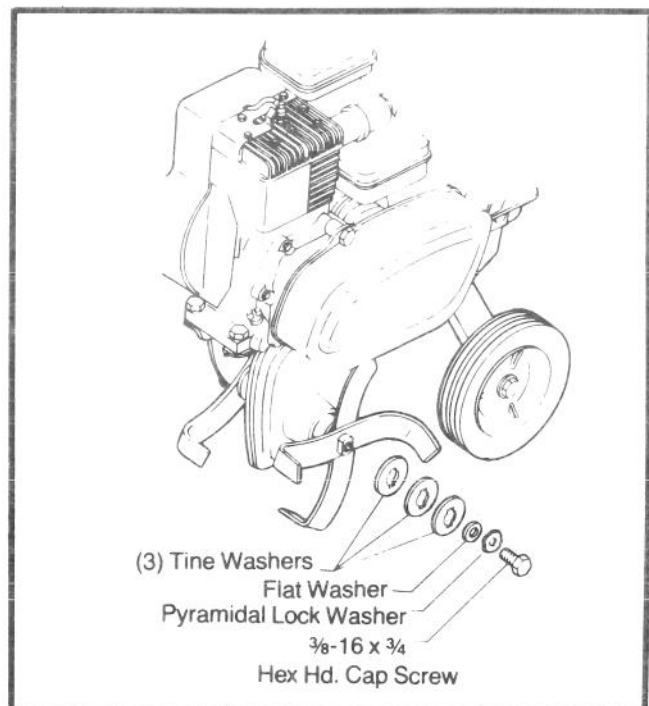

FIGURE 11
2. Resecure inner tines to tine shaft. See Fig. 11 for the correct sequence of parts. **NOTE:** Use the hardware removed from the outer tines along with the extra tine washer and $\frac{3}{8}$ -16 x $\frac{3}{4}$ " cap screw (from the hardware bag).